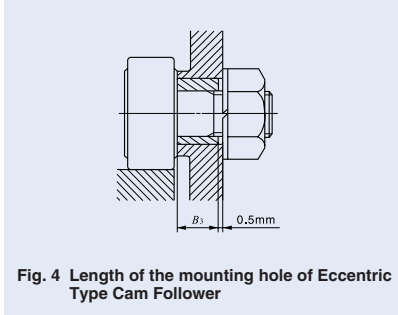

Fig. 4 Length of the mounting hole of Eccentric Type Cam Follower
⑤ In case of Eccentric Type Cam Followers (CFE), the length of the mounting hole should be more than 0.5 mm longer than the dimension B_3 (Eccentric collar width) shown in the table of dimensions. (See Fig. 4.)